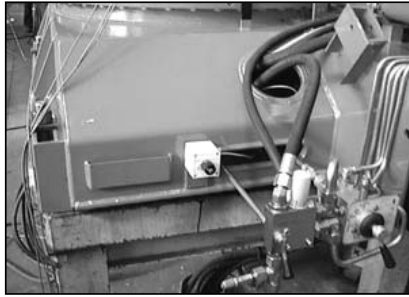

fig. 18
- Connect by cable the remote control to the socket fixed on the base of the crane (fig. 18)